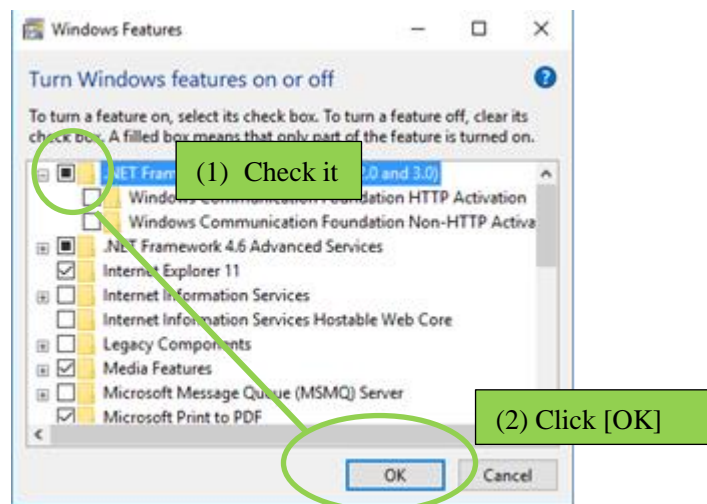

Figure 2.3 Check [.NET Framework 3.5]
(3) Check [.NET Framework 3.5 (including .NET 2.0 and 3.0)] and click the [OK] button to start the installation (Fig. 2.3).